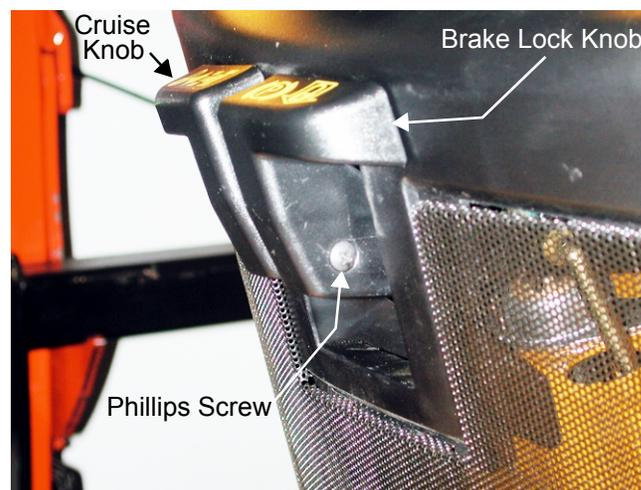

Figure 3
- Remove the Phillips screws securing the cruise knob and the brake lock knob in position using a Phillips screwdriver. See Figure 3.